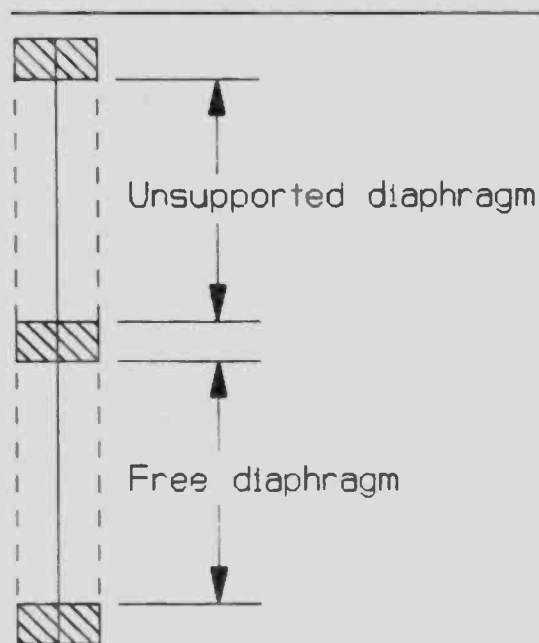

FIGURE 5-4: Unsupported diaphragm length.
**SPACER RATIO.** The diaphragm is separated from the stators by spacers. The distance from one spacer to the next determines the free (unsupported) diaphragm length (Fig. 5-4).